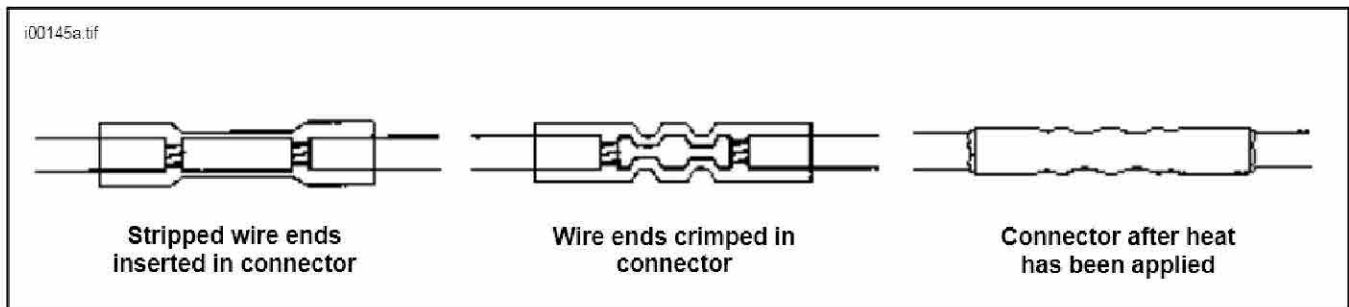

Figure 7. Installing Sealed Butt Connectors
2. See Figure 7. Strip 3/8 in. of insulation off both wires to be spliced. Insert the wires from new ignition switch and wires from original wiring harness into opposite ends of the appropriate butt splice connector.